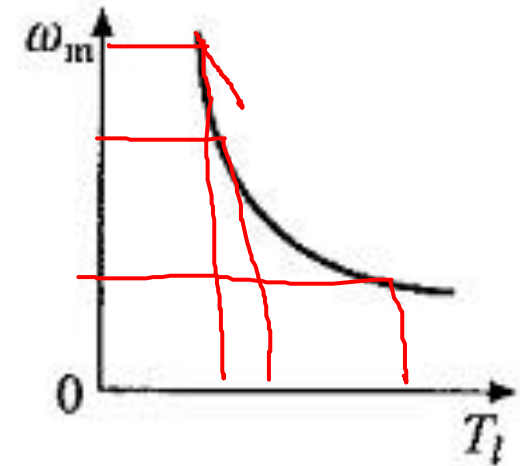

Fig. 5. Constant power load.
- Torque in a coiler drive is also a function of speed. It is approximately hyperbolic in nature as shown in Fig. 5. The developed power is nearly constant at all speeds.